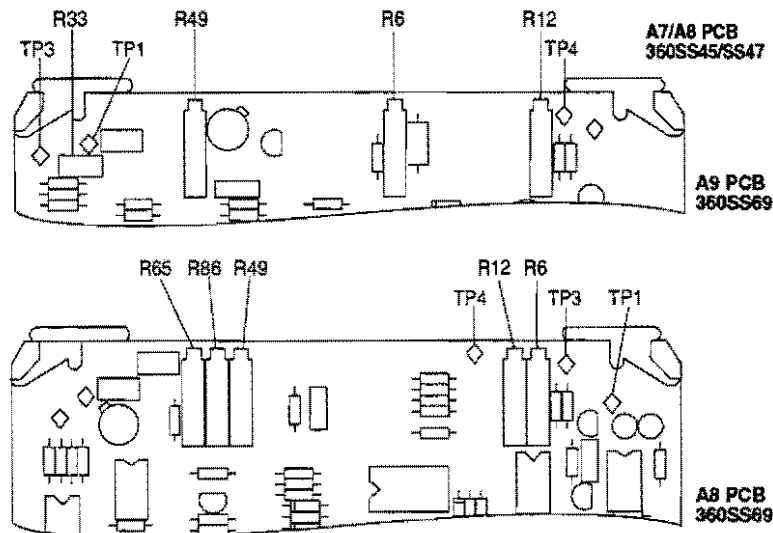

Figure 10-18. A7 PCB thru A9 PCB Component Locations
- Step 2.** Connect the digital multimeter test leads between A7TP3 (+) and A7TP1 (–) (Figure 10-18).
- Step 2.** Connect the digital multimeter test leads between A8TP3 (+) and A8TP1 (–) (Figure 10-18).
- Step 3.** Connect the digital multimeter test leads between A9TP3 (+) and A9TP1 (–) (Figure 10-18).
Step 1. Connect the digital multimeter between A7TP4 (+) and A7TP1 (–) (Figure 10-18).
Step 1. Connect the digital multimeter between A8TP4 (+) and A8TP1 (–) (Figure 10-18).
Step 1. Connect the digital multimeter between A9TP4 (+) and A9TP1 (–) (Figure 10-18).
- Step 8.** Adjust A7R12 (Figure 10-18) for 8.1 GHz ± 2 MHz.
- Step 8.** Adjust A8R12 (Figure 10-18) for 12.5 GHz ± 2 MHz.
- Step 12.** Adjust A8R6 (Figure 10-18) for 17.9 GHz ± 2 MHz, for the 360SS69; or 20 GHz ± 2 MHz, for the 360SS47.
- Step 21.** Adjust A8R68 (Figure 10-18) for 28 GHz ± 2 MHz.